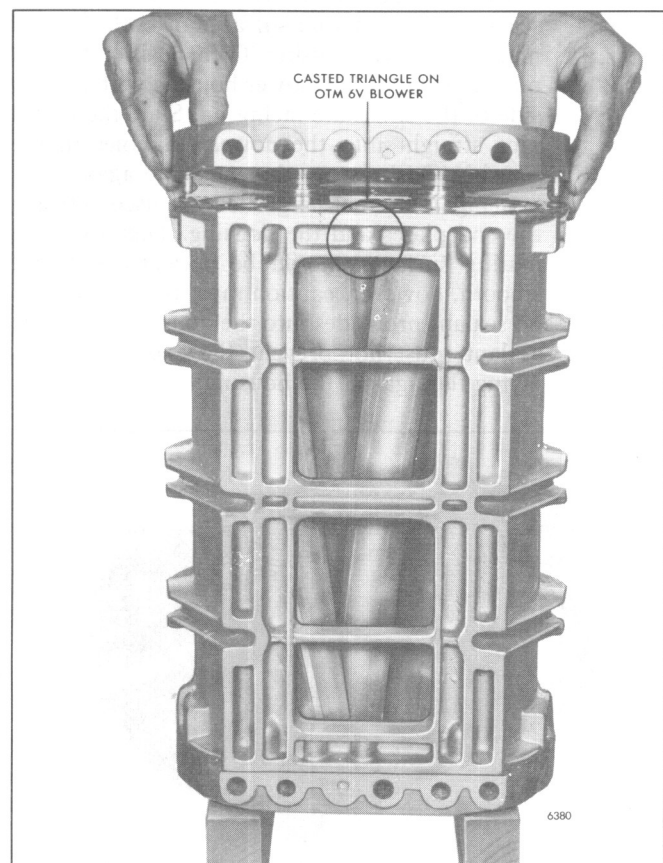

Fig. 18 - Installing Rear End Plate on Blower Rotors and Housing
- f. Lower the end plate straight over the rotor shafts until the dowel pins in the end plate contact the blower housing (Fig. 18). Then, carefully work the dowel pins into the dowel pin holes in the housing and the oil seal rings into the collars. Push the end plate tight against the housing. If necessary, tap the end plate lightly with a plastic hammer.